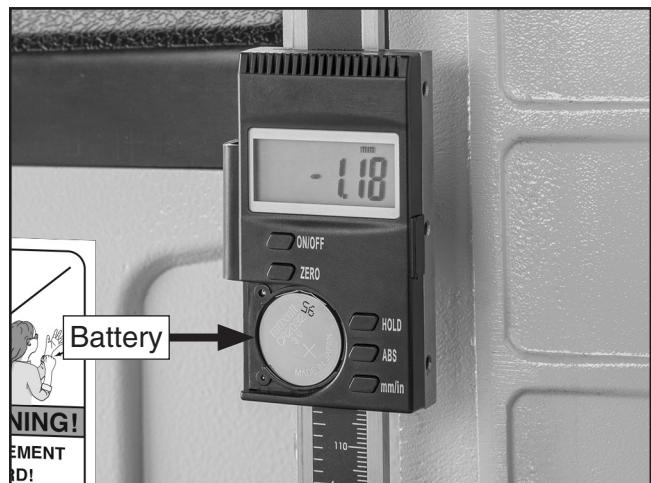

Figure 20. Battery installed in depth gauge.
- 19.** Install CR2032 battery in digital depth gauge (see **Figure 20**).